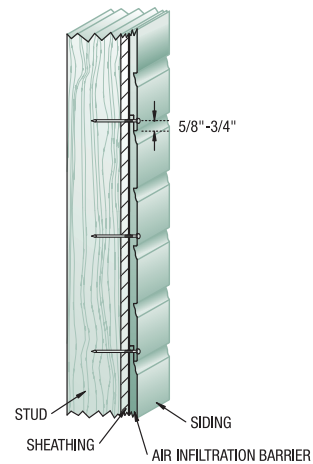

FIG. 4
- Although not recommended, where 24" o.c. vertical framing is used, wood-based sheathing is required. Follow product specific nailing pattern (see Fig 4) and nail to framing 24 o.c. with intermediate nailing 12 o.c. to sheathing.
12" Cottage lap Sidings require 2 nails per board on studs 16" o.c. Place nails 5/8" to 3/4" up from the drip edge and in the center of the lap. Make sure that drip edge nails penetrate both courses of siding and into studs. Do not nail in the groove. *See Fig. 4.*